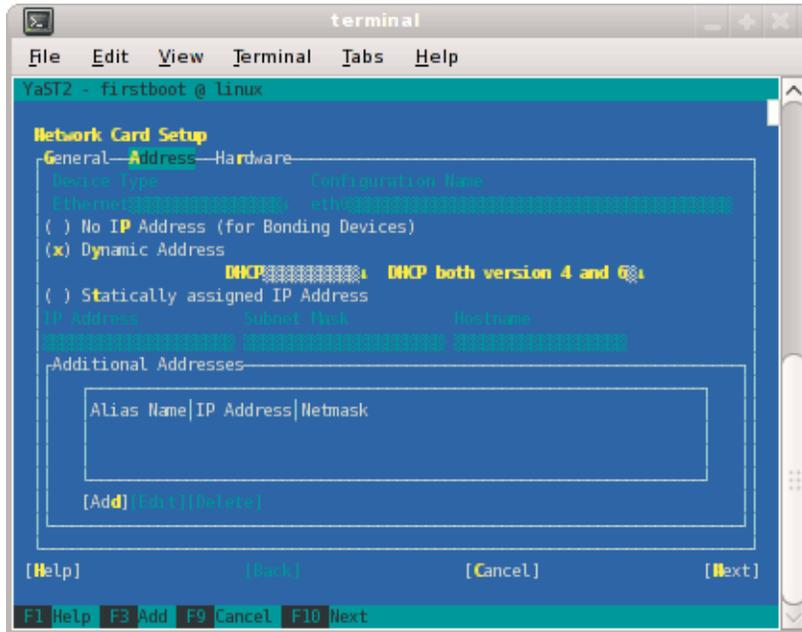

Figure 1-7 Network Card Setup Screen
8. The **Network Card Setup** screen appears, as shown in Figure 1-7 on page 8. SGI suggests using static IP addresses and not DHCP for admin nodes. Select **Statically assigned IP Address**. Once selected, you can enter the IP Address, Subnet Mask, and Hostname.